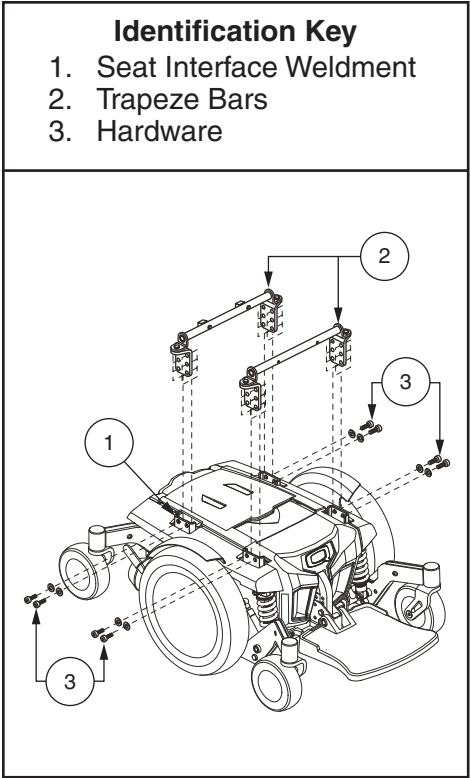

Figure 11. Seat Height/Angle Adjustment
7. Remove the hardware that attaches the trapeze bars to the seat interface weldments. **See figure 11.**